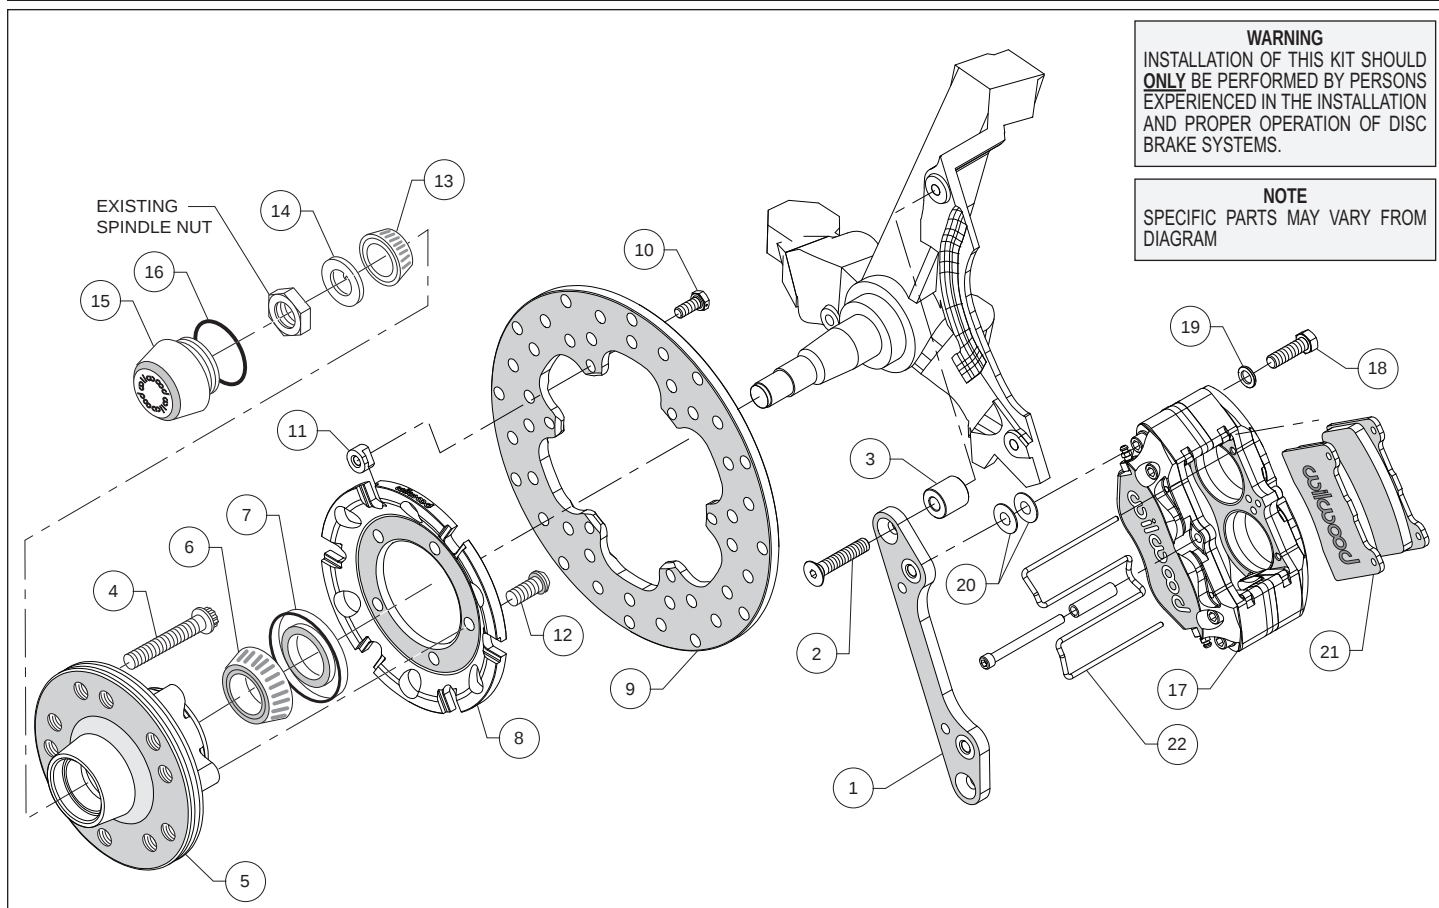
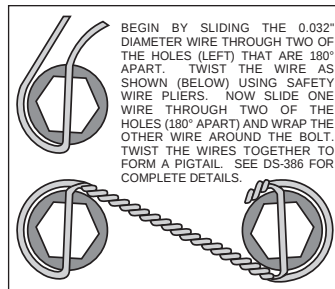
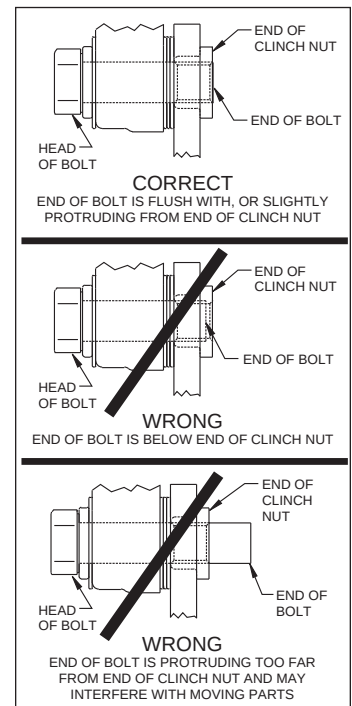

Figure 2. Typical Installation Configuration
Figure 4. Safety Wire Diagram
Figure 5. Clinch Nut Engagement Diagram
Assembly Instructions (numbers in parenthesis refer to the parts list, on the preceding page and Figure 2): **CAUTION:** All mounting bolts must fully engage clinch nuts. Be sure to check that all bolts are either flush or protruding through flanged side of clinch nut after shimming, Figure 5.
- Orient the caliper mounting bracket (1) as shown in Figure 2 and Photo 1. Attach using bolts (2) and spacers (3), Figure 2. Temporarily tighten the mounting bolts. Ensure that the flanged heads of the clinch nuts in the bracket are facing outboard, Photo 1. **NOTE:** The bracket must fit squarely against the mounting points on the spindle. Inspect for interference from casting irregularities, machining ridges, burrs, etc. Remove bolts one at a time, apply red *Loctite*® 271 to threads and torque to 30 ft-lbs.
- Install the grease seal (7) by pressing into the backside of the hub (5), flush with the end of the hub, Photo 3.
- Orient the rotor (9) and the rotor adapter (8) as shown in Figure 2 and Photo 4. Attach the rotor to the adapter using bolts (10) and T-nuts (11). Using an alternating sequence, apply red *Loctite*® 271 to the threads, and torque to 120 in-lb. Safety wire bolts using standard 0.032 inch diameter stainless steel safety wire as shown in Figure 4. Refer to Wilwood's data sheet DS-386 (available at www.wilwood.com/Pdf/DataSheets/ds386.pdf) for complete safety wire installation instructions.
- Mount the adapter/rotor assembly (8 and 9) to the hub (5) using bolts (12), as shown in Figure 2 and Photo 5. Using an alternating sequence, apply red *Loctite*® 271 to the threads, and torque to 45 ft-lb.
- Pack the small outer bearing cone (13) with high temperature disc brake bearing grease and install into hub (5). Slide the hub/rotor assembly onto the spindle. Secure using spindle washer (14) and OEM spindle nut, Photo 6. Adjust bearings per OEM specifications. Install saved OEM nut lock (if any) and a new cotter pin (not included).
as shown in Figure 2. Initially place two .035" thick shims (20) on each bolt between the caliper and the bracket, Photo 8. Temporarily tighten the mounting bolts and view the rotor (9) through the top opening of the caliper. The rotor should be centered in the caliper, Photo 9. If not, adjust by adding or subtracting shims (20) between the bracket and the caliper. Always use the same amount of shims on each of the two mounting bolts. **NOTE:** *The end of each bolt must be flush with or slightly protruding from the head of the clinch nut, as shown in Figure 5.* If necessary place spare shims (20) between washer (19) and caliper mounting ear to achieve the proper clinch nut engagement. Once the caliper alignment and clinch nut engagement are correct, remove the bolts one at a time, apply red *Loctite*® 271 to bolt threads, and torque to 40 ft-lb. For an added measure of security, the bolts may be safety wired using standard 0.032 inch diameter stainless steel safety wire as shown in Figure 4. Refer to Wilwood's data sheet DS-386 (available at www.wilwood.com/Pdf/DataSheets/ds386.pdf) for complete safety wire installation instructions.